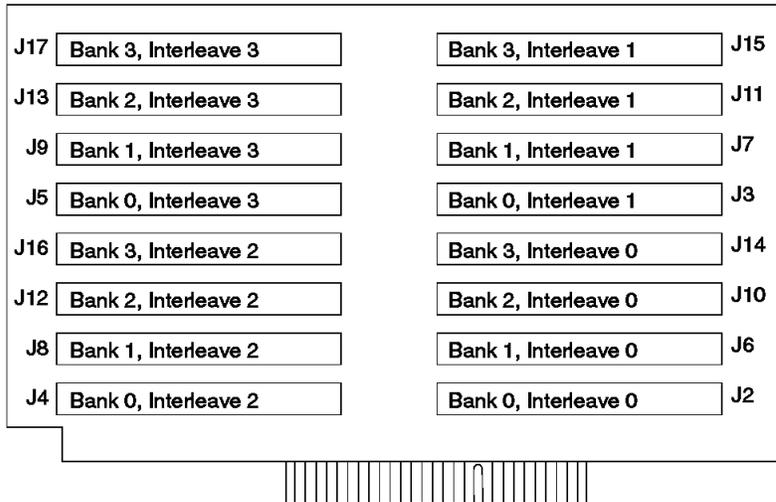

Figure 59. Memory Board Layout
- The memory board contains four banks, arranged in 16 DIMM connectors and supports 4-way memory interleaving. See Figure 59 on page 186 for the location of the memory module banks and connectors on the memory board.